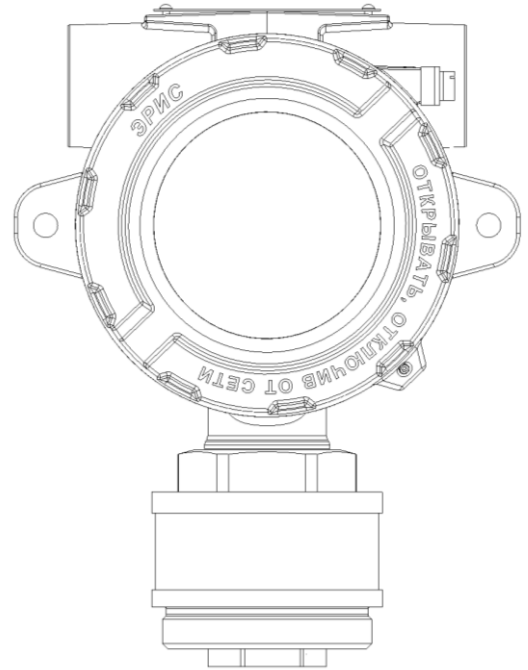

Figure 12 – Gas detector without moisture protection cap
- Remove the moisture protection cap from the gas detector (Figure 12);